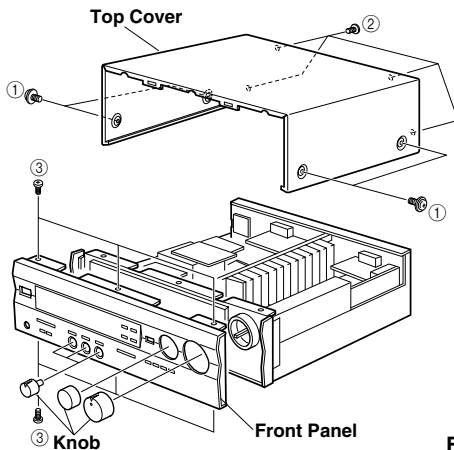

Fig.1
Remove 4 screws (1) and 4 screws (2) in Fig. 1.
- Remove 6 screws (3) in Fig. 1.